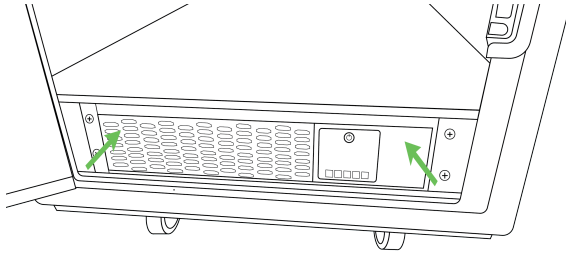

Figure 6-41. Installing UPS face plate
7. Align the UPS face plate on the front of the UPS and apply pressure to both sides of the face plate until it clicks into position (Figure 6-41).